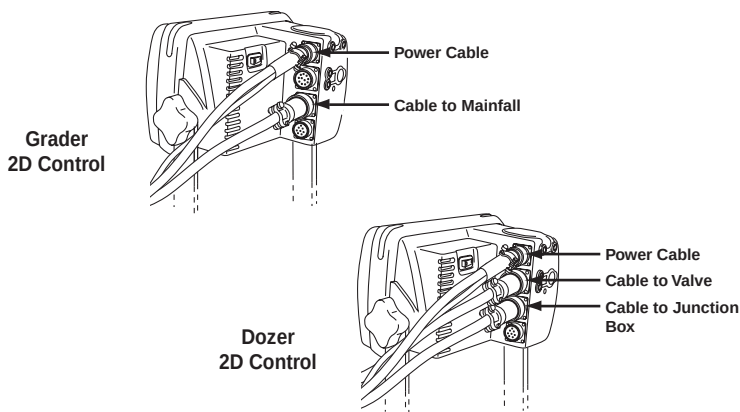

Figure 9-8. 2D Control Application Control Box Cable Connections
2. Connect the various electrical cables (Figure 9-8). Cable connections differ depending on the machine type.